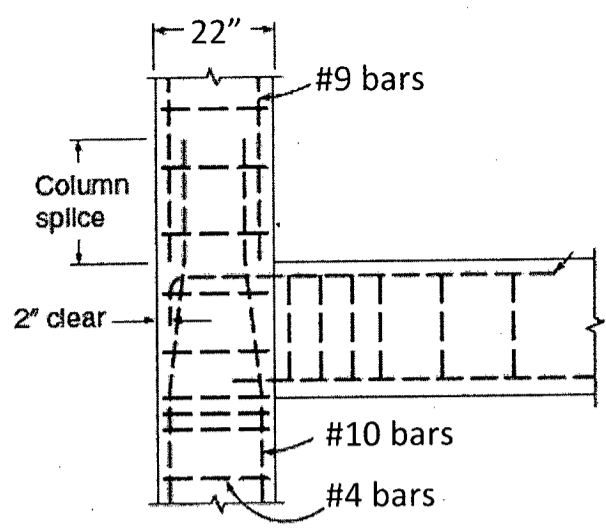
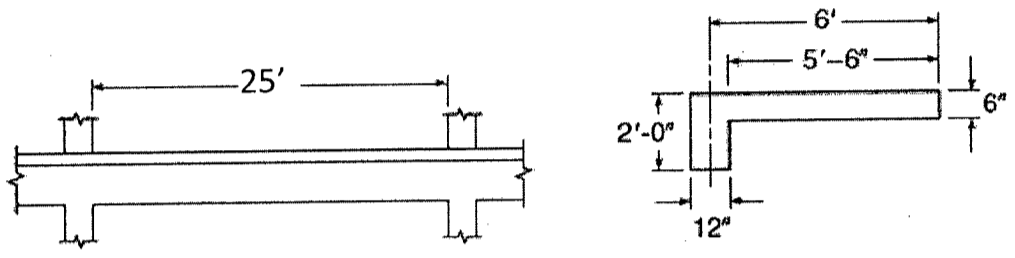

Fig. 5
Fig. 6
- (c) In reference to Fig. 5, four #10 column bars from the floor below are to be lap-spliced with four #9 column bars from above, and the splice is to be made just above a construction joint at floor level. The column, measuring  $12 \times 22$  inch in cross section, will be subject to compression only for a load combinations. Transverse reinforcement consists of #4 ties at 12 inch spacing. All vertical bars may be assumed to be fully stressed. Calculate the required splice length. Material strengths are  $f_y = 60$  ksi and  $f'_c = 4$  ksi. (15)
4. (a) What do you mean by one way slab and two way slab? (3)
- (b) Describe briefly the primary torsion and secondary torsion with neat sketches. (7)
- (c) The 25 ft span beam shown in Fig. 6 carries a monolithic slab cantilevering 6 ft past the beam centerline. The resulting L beam supports a live load of 950 lb/ft along the beam centerline plus 50 psf uniformly distributed live load over the upper slab surface. The effective depth to the flexural steel centroid is 21.5 in., and the distance from the beam surfaces to the centroid of stirrup steel is  $1\frac{3}{4}$  inch. Material strengths are  $f'_c = 4000$  psi and  $f_y = 60,000$  psi. (25)